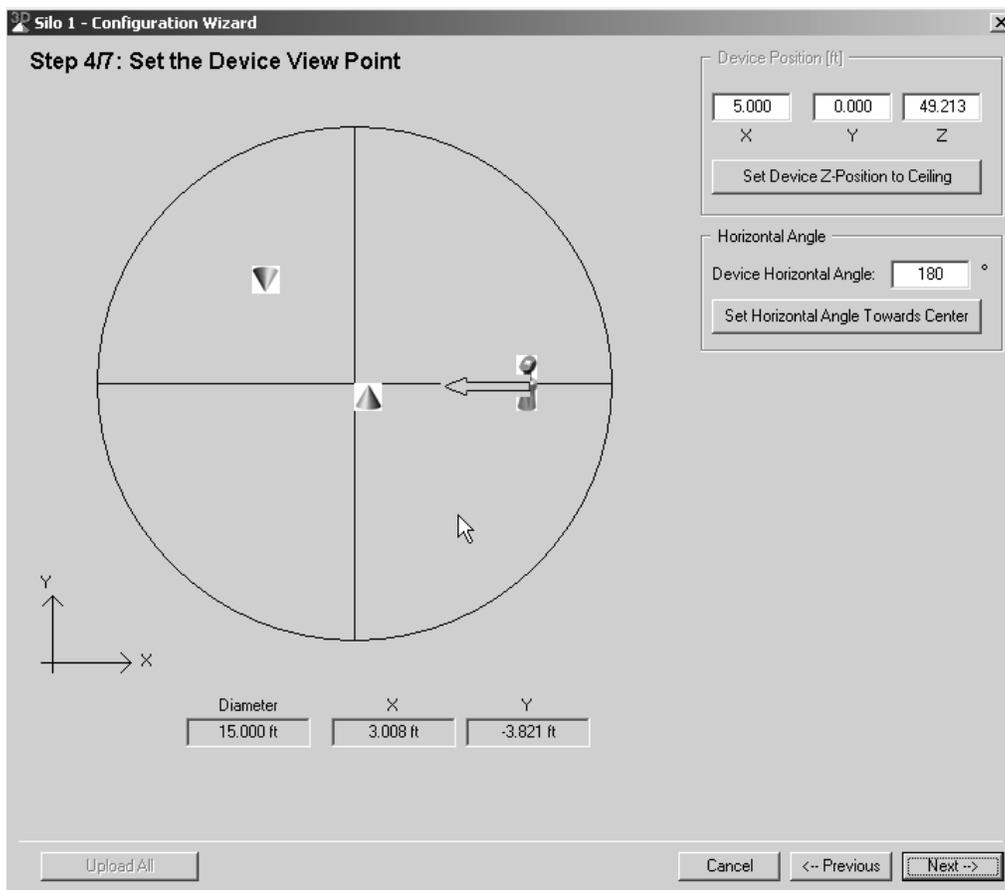

Figure 43 Configuration Wizard – Step 4/7: Set the Device View Point
Step 4/7 (Figure 43) specifies the device's horizontal angle.